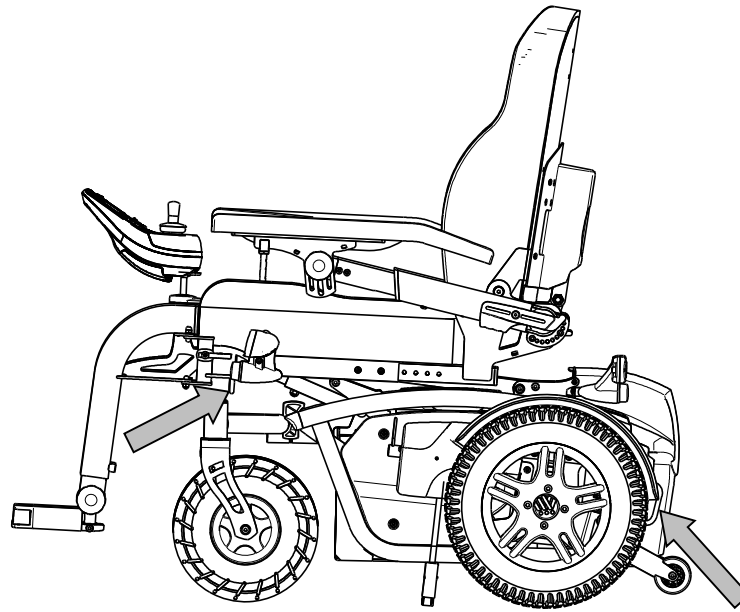

Figure 1
4. If luggage and passenger compartments are not separated or enclosed, fasten the wheelchair frame securely to the vehicle using the 4-points strap-tie-down system (see Figure 1).
10. Mount the front securement straps according to the instructions of the strap-system manufacturer at the indicated place (figure 1).
12. Mount the back securement straps according to the instructions of the strap-system manufacturer at the indicated place (figure 1).